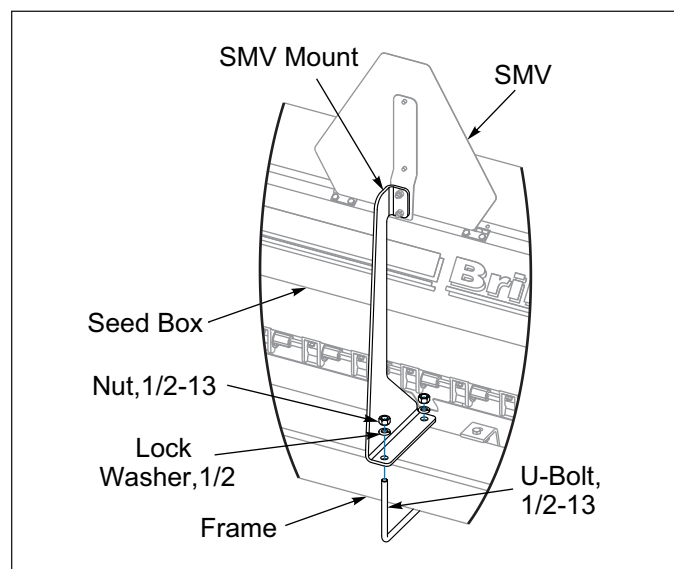

Figure 2-4: SMV Mount, 8FT (Before 08/2025)
4. **8FT Seeders:** Install SMV Mount to Seed Box Frame with 1/2-13 U-Bolt, Lock Washers, and Nuts. **See Figure 2-4.**
5. **8FT Seeders:** Install SMV Mount to Seed Box Frame with 1/2-13 U-Bolt, Lock Washers and Nuts. **See Figure 2-4.**